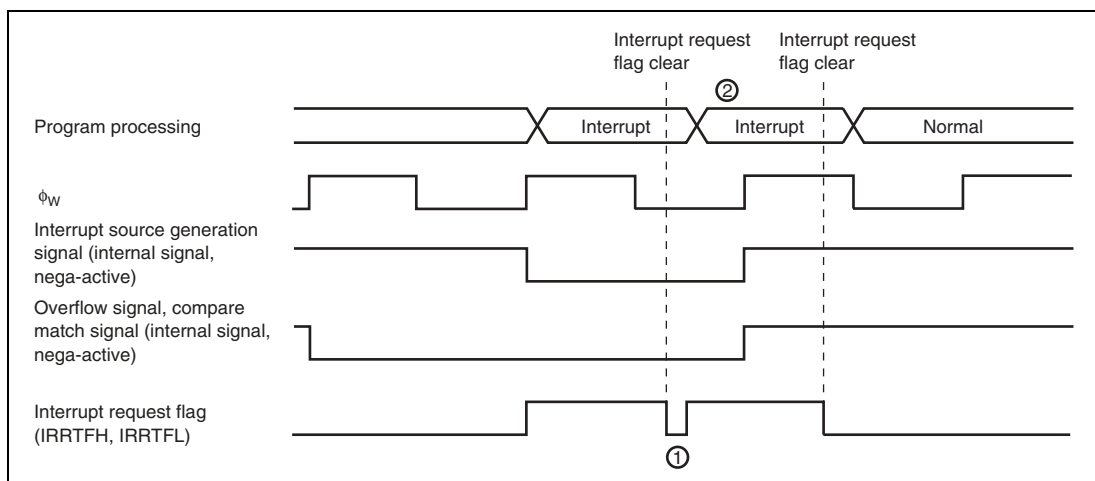

Figure 11.3 Clear Interrupt Request Flag when Interrupt Source Generation Signal is Valid
When $\phi_w/4$ is selected as the internal clock, "Interrupt source generation signal" will be operated with ϕ_w and the signal will be outputted with ϕ_w width. And, "Overflow signal" and "Compare match signal" are controlled with 2 cycles of ϕ_w signals. Those signals are output with 2-cycle width of ϕ_w (figure 11.3)
In active (high-speed, medium-speed) mode, even if you cleared interrupt request flag during the term of validity of "Interrupt source generation signal", same interrupt request flag is set. (1 in figure 11.3) And, the timer overflow flag and compare match flag cannot be cleared during the term of validity of "Overflow signal" and "Compare match signal".
For interrupt request flag is set right after interrupt request is cleared, interrupt process to one time timer FH, timer FL interrupt might be repeated. (2 in figure 11.3) Therefore, to definitely clear interrupt request flag in active (high-speed, medium-speed) mode, clear should be processed after the time that calculated with below (1) formula. And, to definitely clear timer overflow flag and compare match flag, clear should be processed after read timer control status register F (TCSRF) after the time that calculated with below (1) formula.